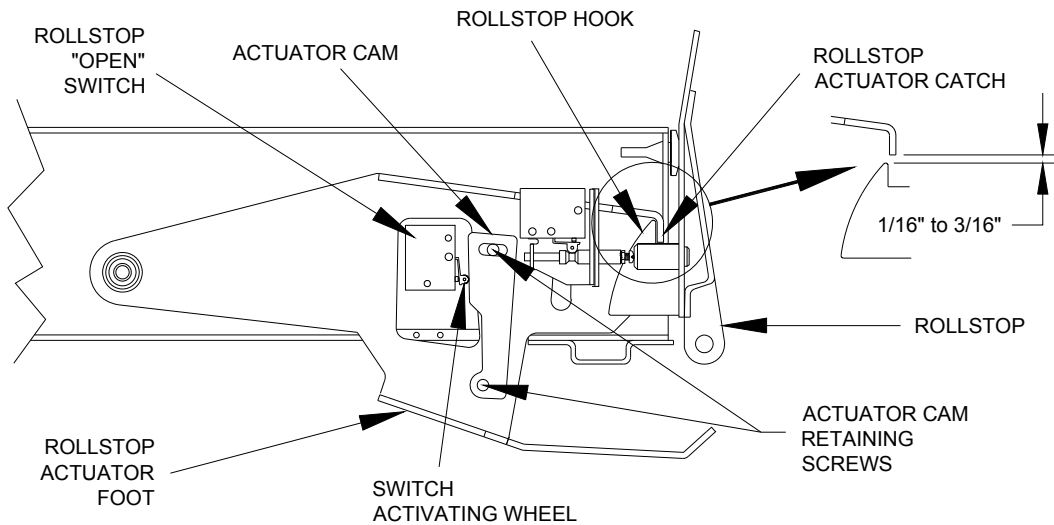

FIGURE 4-7: ROLLSTOP ACTUATION COMPONENTS
- 5) Refer to **Figure 4-7**. Loosen actuator cam retaining screws, and pivot actuator cam away from switch activating wheel (roller).